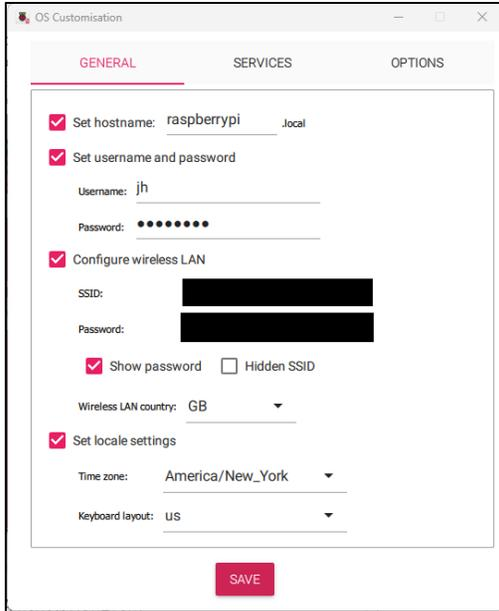

Figure 83 General Settings
7. Under the **General** tab, configure a hostname, username, password, wireless LAN, and locale settings like the example shown in **Figure 83**.